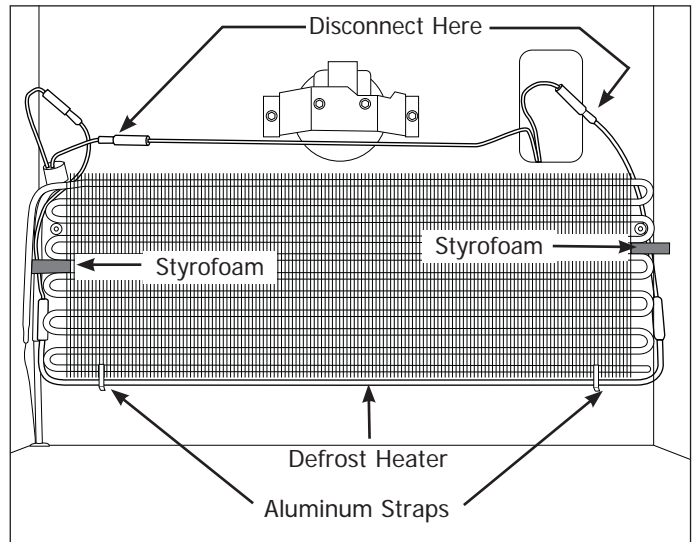

Figure 5-48. Defrost Heater Removal
The defrost thermostat is secured with a retaining clip to the upper left corner of the evaporator assembly. The defrost thermostat and wire harness connections may be accessed without completely removing the evaporator cover. The top of the evaporator cover may be pulled away from the rear of the cabinet interior enough to remove the defrost terminator and disconnect the wire harness connections. (See Figure 5-48)
The defrost heater is secured with two aluminum straps to the bottom tube of the evaporator assembly. (See Figure 5-48)
5. Disconnect the defrost heater wire leads from the wire harness. (See Figure 5-48)